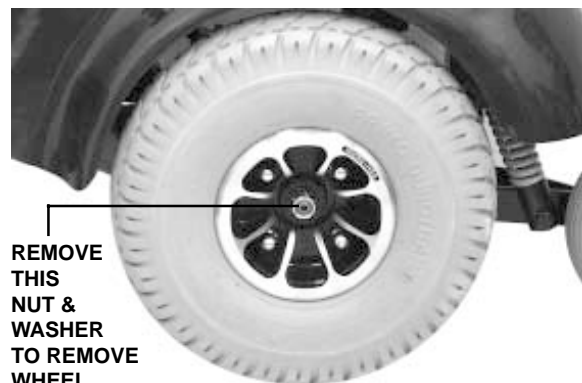

Figure 27. Drive Wheel
2. Use a 17-mm socket wrench and driver to remove the nut from the wheel axle. See figure 27.